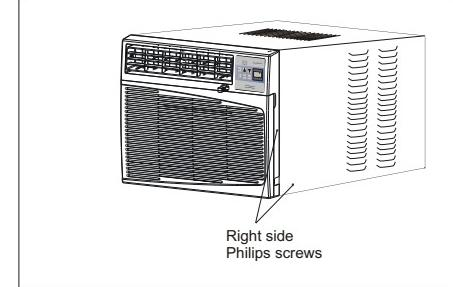

Fig. 1
A. Remove total of (4) Philips screws securing the chassis to the cabinet. There are (2) screws on each side. The set of screws closest to the front of the unit secure the front panel to the cabinet. The set of screw closest to the rear of the unit secure the cabinet to the chassis. See (Fig. 1).
B. Secure the front grille to the cabinet using the Philips screws removed earlier(Fig. 1).